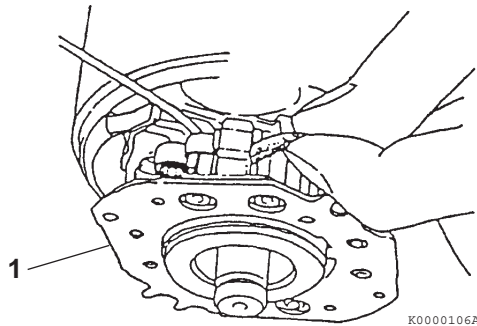

Figure 11-5
4. Pull the brush springs up using a brush spring puller. On the negative (-) side, bring the brush spring into contact with the side of the brush for lifting from the commutator surface. On the positive (+) side, remove the brush from the brush holder assembly **(Figure 11-5, (1))**.